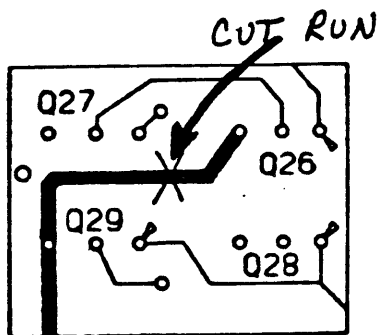

Figure 4
2. Cut the run between Q29 collector and Q26 collector on back side of board. See Figure 4.